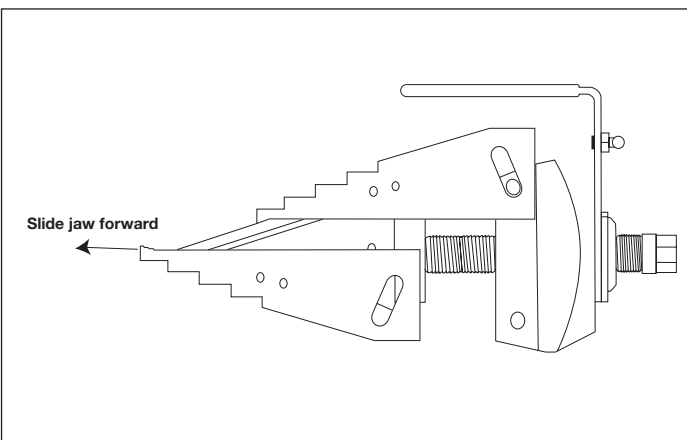

Figure 3
3. Screw the Pushrod (No. 9) forward until the Wedge (No. 1) is fully extended (see Fig. 3).